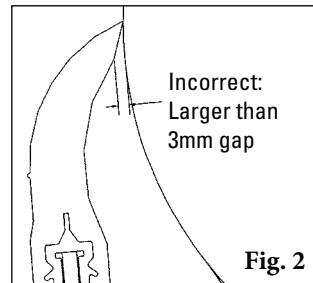

Fig. 2
- Pole location too far out - The initial blade/belt contact gap will be larger than 3mm (Fig. 2). If the blade is correctly tensioned it may flip through before it is fully worn. If tensioned too lightly, it will develop the "smile effect" quickly and not clean properly.
- Lay out the dimensions on the chute wall.** Measure out the X dimension horizontally from the centre of the pulley shaft and mark. (NOTE: It may be easier to put a level on top of the pulley shaft, draw a horizontal line and then measure down half the diameter of the shaft and make a line from the front of the shaft. Now subtract half the pulley shaft diameter from the X coordinate and measure on the line and make a mark.) Then measure down vertically the Y dimension and mark. This is the correct position for the centre of the cleaner pole (Fig. 2). Lay out and mark the same dimensions on the other side.